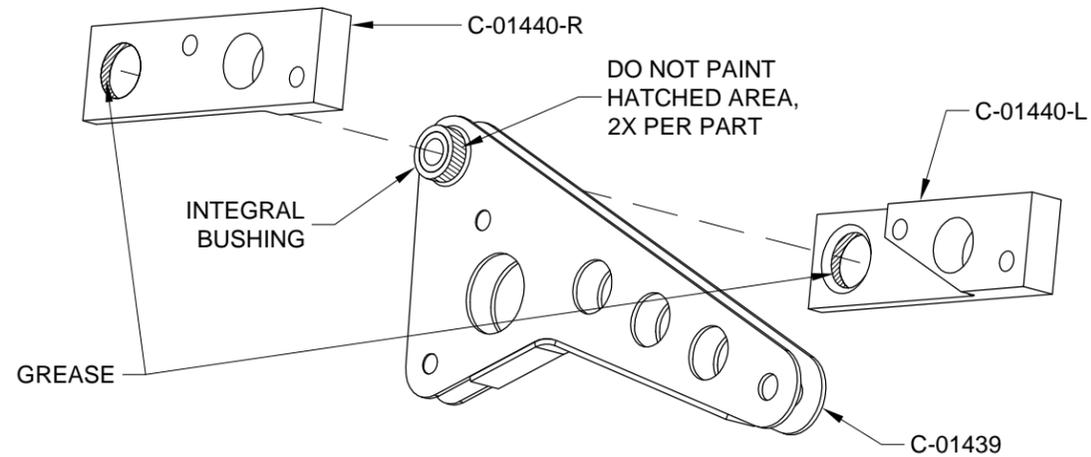

FIGURE 2: CANOPY CRADLE ASSEMBLY
Step 2: Prime and paint the C-01439 Canopy Cradles except for the integral bushing surfaces as shown in Figure 2.
Step 3: Apply Aeroshell #5 wheel bearing grease or equivalent to the C-01440-L & -R Canopy Hinge Bracket surfaces that will be in contact with the C-01439 Canopy Cradle integral bushings as indicated in Figure 2.
Step 4: Sandwich the C-01439 Canopy Cradles between the C-01440-L & -R Canopy Hinge Brackets as shown in Figure 2.